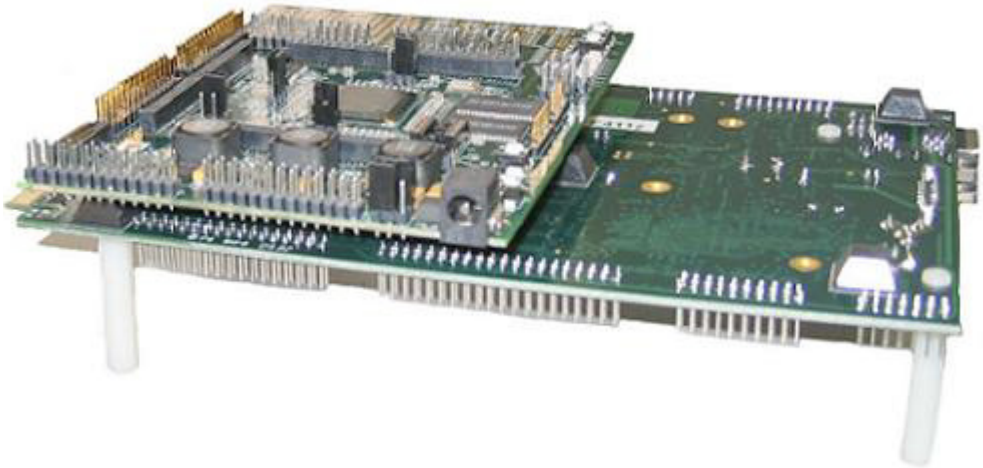

Figure 1-1. FPGA EZ-Extender Setup
6. Install the FPGA EZ-Extender on the EZ-KIT Lite via the three-connector expansion interface. Figure 1-1 shows how an FPGA EZ-Extender plugs onto an EZ-KIT Lite.